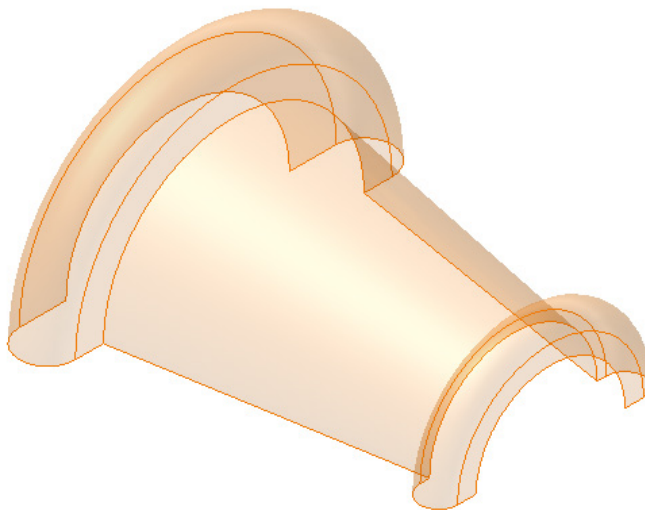

Figure 18-53 Base surface
- b. Revolve this sketch through an angle of 180-degree so that the final output is a surface, refer to Figure 18-53.
4. Select **Angle** from the drop-down list in the **Extents** area and set the value of the angle to 180 degrees. Next, choose **OK**; the base surface is created, as shown in Figure 18-53.